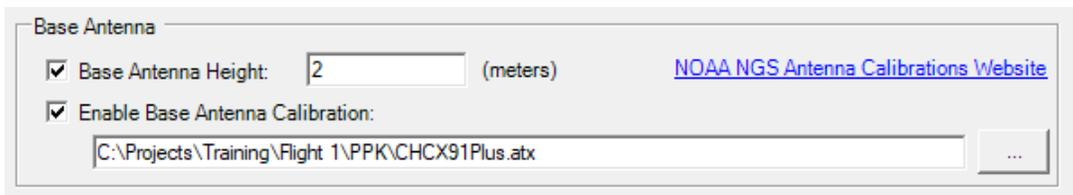

Figure 31 – Base Antenna Settings
- Check the box next to *Antenna Height* and enter the antenna height. Check the box next to *Enable Base Antenna Calibration* and import the correct base antenna calibration file. (Figure 31)